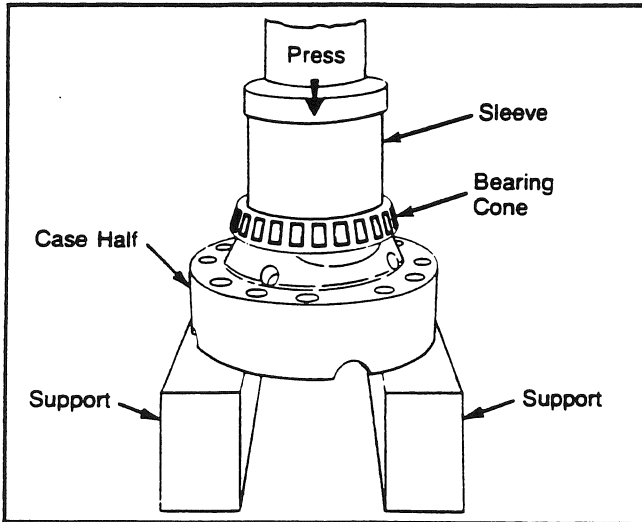

Fig. 53
4. Install the bearing cones on both of the case halves. Use a press and sleeve of the correct size (see Fig. 53).